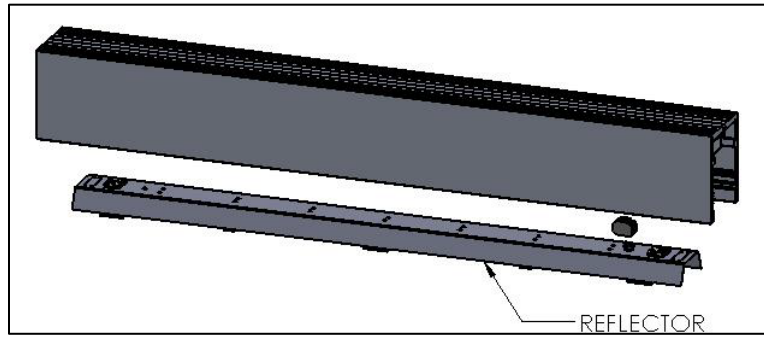

FIG. 11 –REFLECTOR INSTALLATION
6. Attach REFLECTOR, use a flat screw driver to snap tabs back in place. as shown FIG. 11.